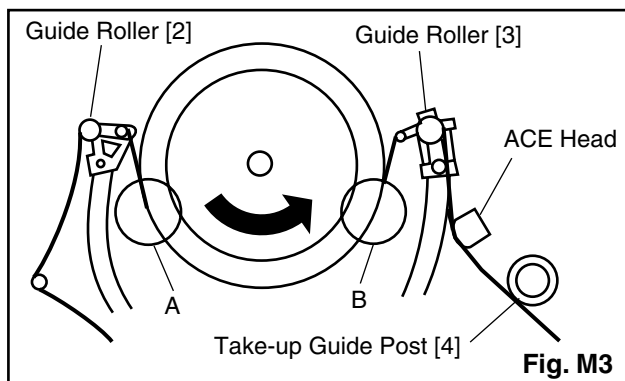

Fig. M3
1. Playback a blank cassette tape and check to see that the tape runs without creasing at Guide Rollers [2] and [3], and at points A and B on the lead surface. (Refer to Fig. M3 and M4.)
2. If creasing is apparent, align the height of the guide rollers by turning the top of Guide Rollers [2] and [3] with a Guide Roller Adj. Screwdriver. (Refer to Fig. M3 and M5.)
3. Check to see that the tape runs without creasing at Take-up Guide Post [4] or without snaking between Guide Roller [3] and ACE Head. (Fig. M3 and M5)
- Playback the Gray Scale on the Alignment Tape (FL8NW). Set the Tracking Control Circuit to the preset position by pressing [CH UP] button on the unit and then [PLAY] button on the unit. Adjust the height of Guide Rollers [2] and [3] (Fig. M3, Page 2-3-3) watching the oscilloscope display so that the envelope becomes as flat as possible. To do this adjustment, turn the top of the Guide Roller with the Guide Roller Adj. Screwdriver.
- If the envelope is as shown in Fig. M7, adjust the height of Guide Roller [2] (Refer to Fig. M3) so that the waveform looks like the one shown in Fig. M9.
- If the envelope is as shown in Fig. M8, adjust the height of Guide Roller [3] (Refer to Fig. M3) so that the waveform looks like the one shown in Fig. M9.
- When Guide Rollers [2] and [3] (Refer to Fig. M3) are aligned properly, there is no envelope drop either at the beginning or end of track as shown in Fig. M9.
Note: Upon completion of the adjustment of Guide Rollers [2] and [3] (Refer to Fig. M3), check the X Value by pushing the [CH UP] or [CH DOWN] buttons on the unit alternately, to check the symmetry of the envelope. Check the number of pushes to ensure preset position. The number of pushes of the [CH UP] button to achieve 1/2 level of envelope should match the number of pushes of the [CH DOWN] button from center. If required, redo the "X Value Alignment."